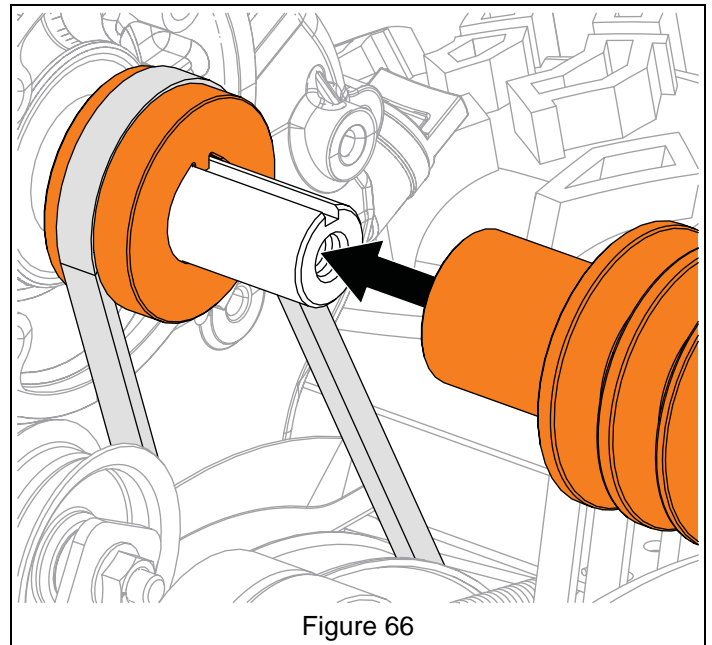

Figure 66
See Figure 66.
**IMPORTANT:** Traction sheave must be reinstalled in the orientation shown in Figure 66.